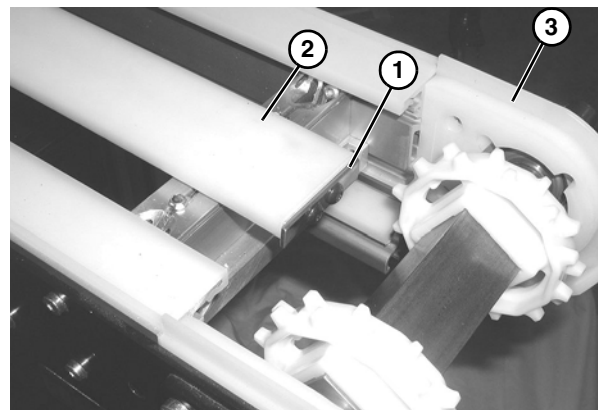

Figure 31
The stop plate (**Figure 31, item 1**) on the center wear strip (**Figure 31, item 2**) faces the drive end (**Figure 31, item 3**) of the conveyor.